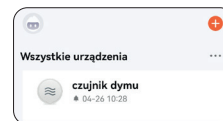
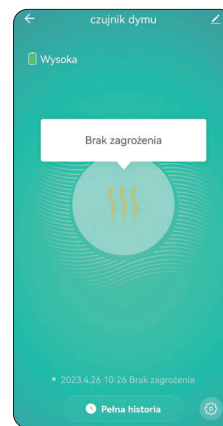
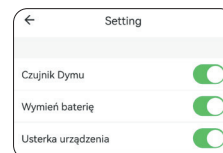

Fig. 10
Fig. 11
Fig. 12
- By clicking on the device symbol in the list of added devices (Fig. 10), you can access the current device status (Fig. 11). By clicking on the cogwheel symbol in the bottom right corner, a settings window opens (Fig. 12) in which you can specify which notifications from your detector are to appear on the phone. These can be:
- Clicking on the “Full history” tab (Fig. 11) gives access to the history of events recorded by the detector.